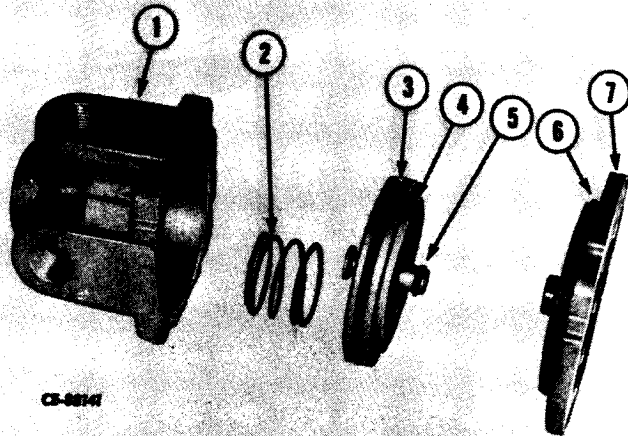

Figure 13-37
Punch mark valve body (1, Fig. 13-37) and cover (7). Remove cover (7) from lower valve body (1). Discard seal (6) from groove in cover.